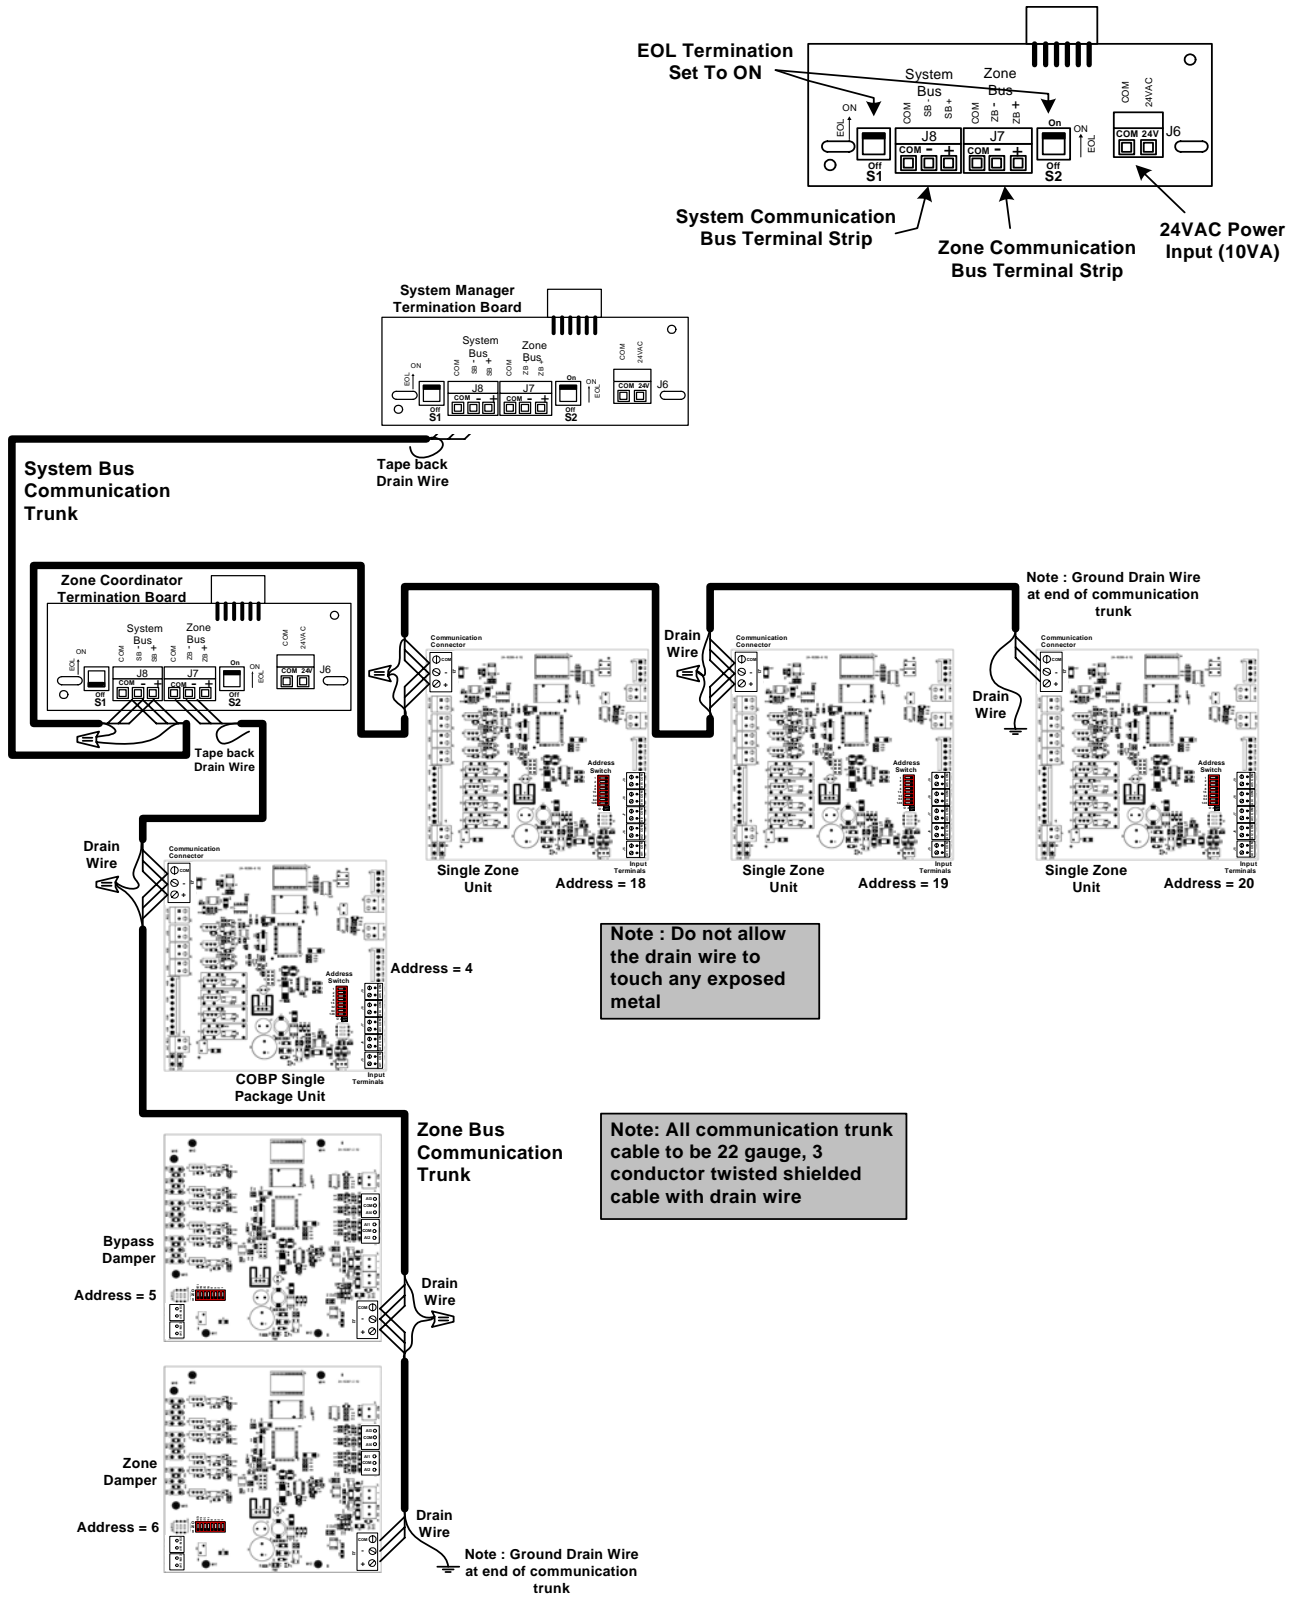

Figure 5: RTU Controller - Typical System Communication Riser
- Wrap the bare drain wire around the screw and tighten the screw (Figure 5). This is the only location where the shield is grounded.
- Run the cable from the last unit to the location of the SM or ZC. Follow the connection instructions for the SM or ZC. Figure 5 shows a typical communication riser.
Figure 5 shows the back communication riser.